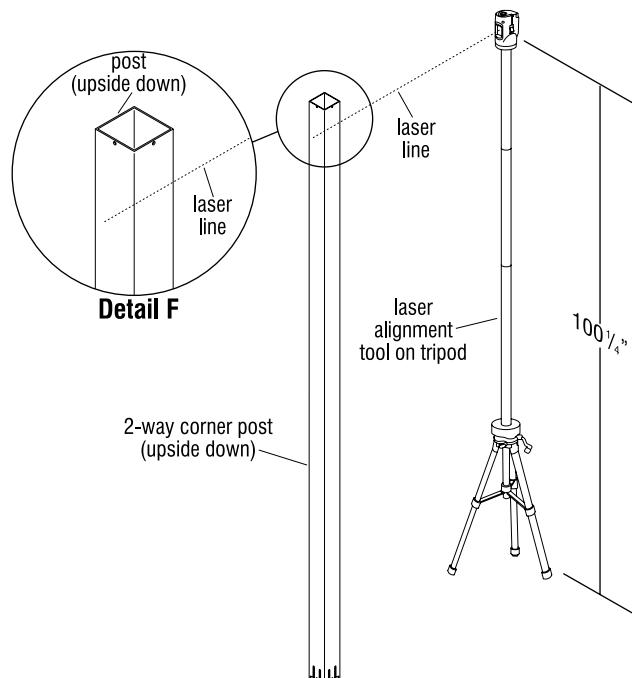

Figure 4
upside-down and perfectly plumb as illustrated, and centered directly over the marked location on the floor (Figure 4 & Detail A).
6. Holding the 2-way corner post exactly centered on the mark for future post location, on the floor and upside down (top-of-post notches face down), use a level to make sure the post is plumb. Assure the laser level is set at  $100\frac{1}{4}$ " off the floor in the doorway and mark the location where the laser line hits the bottom of the post (Figure 4 & Detail A).